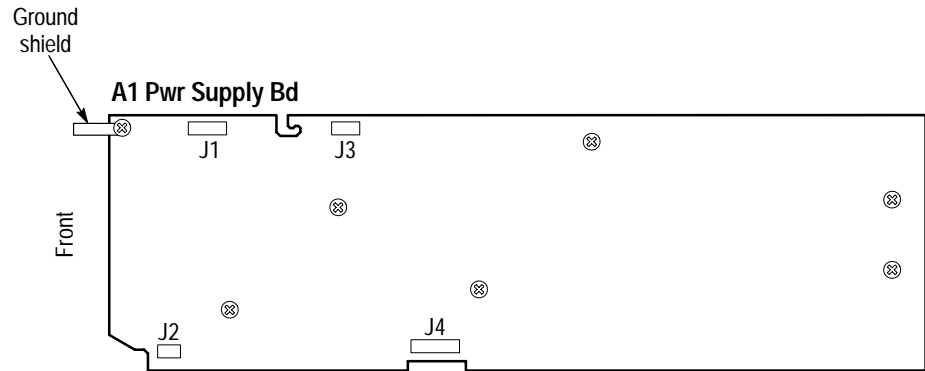

Figure 6-7: Screws holding the Power Supply circuit board (A1) in place.
6. Remove the seven screws that are holding the Power Supply board down. See Figure 6-7.